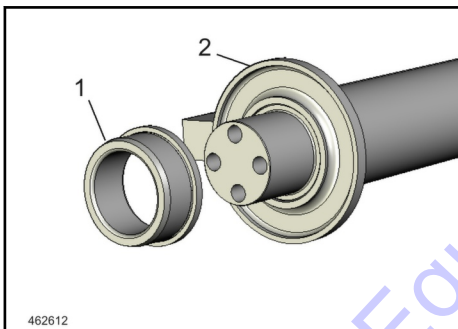

Fig. 231
6. Pull inner bearing race 1 ↗ Fig. 231 off both sides of the exciter shaft.